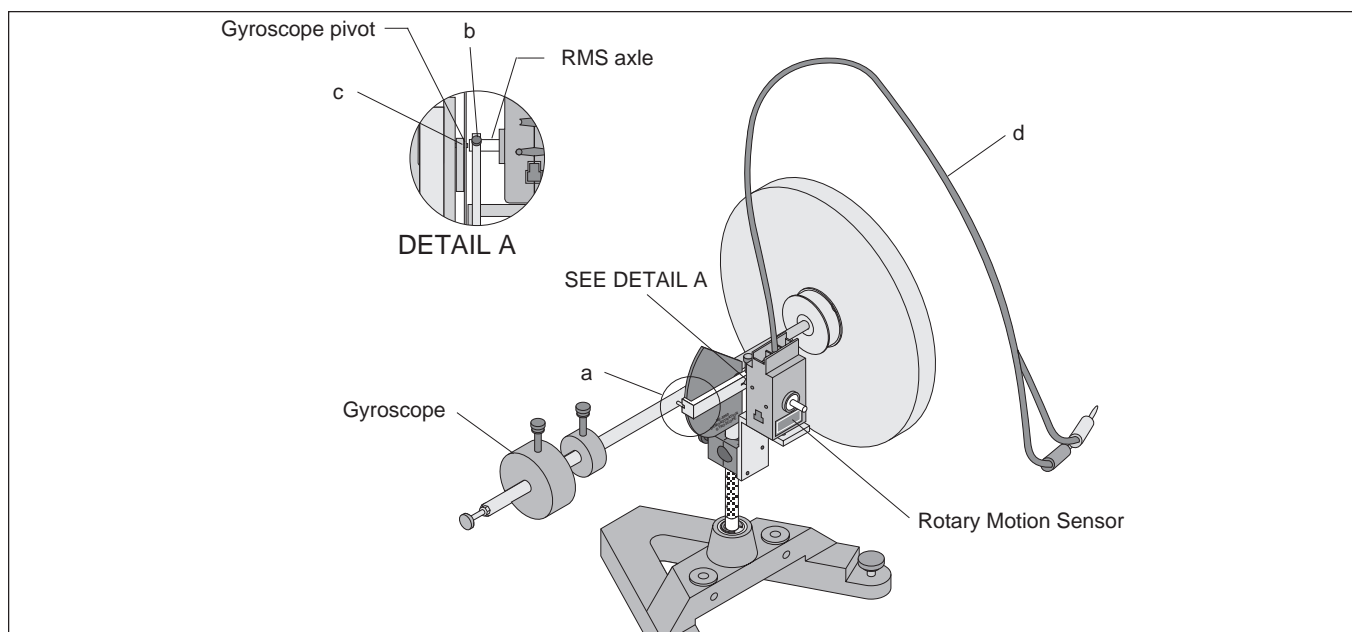

Figure 3
- ⑦ Fit the prongs of the slotted guide arm around the end of the small rod projecting from the gyroscope axle [Figure 3 (a)]. Tighten the bolt on the slotted guide arm [Figure 3 (b)].
- ⑧ If necessary, make fine adjustments to the position of the bracket to insure that the axle of the RMS is centered on the pivot of the gyroscope axle [Figure 3 (c)].
NOTE: Hold the cord of the RMS up out of the way during operation and data acquisition [Figure 3 (d)]. After several rotations of the Gyroscope, the cord will develop a torque that may affect the Gyroscope's motion; it will be necessary to untwist the cord before continuing.